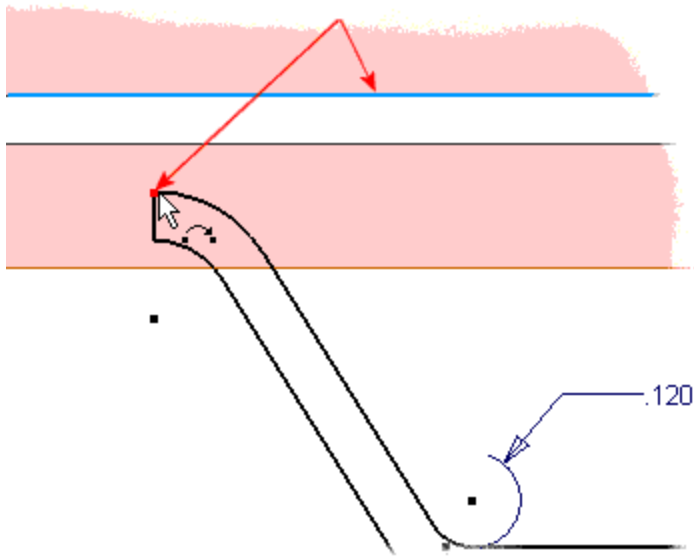

Figure 14: Coincident constraint selections.
12. From the Sketch panel bar, click the Coincident constraint tool . Click the endpoint of the vertical line as shown in Figure 14. Click the projected construction line to complete the constraint. The upper diameter of the dimple can now adjust to match changes to the driving dimensions of the sketch.